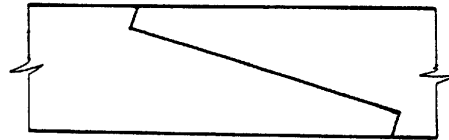

Fig. 3
9. Name the type of lengthening joint shown in figure 3.